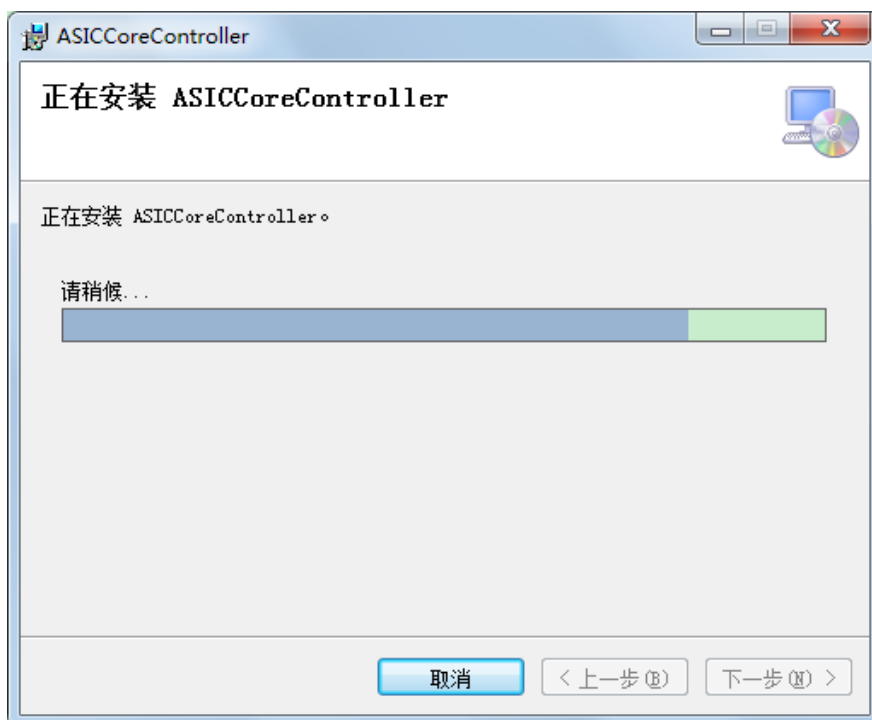

Figure 4-4 Software installation interface 4
4. During installation, the installation progress interface will appear, please wait for the installation to complete, as shown in Fig. 4-4.